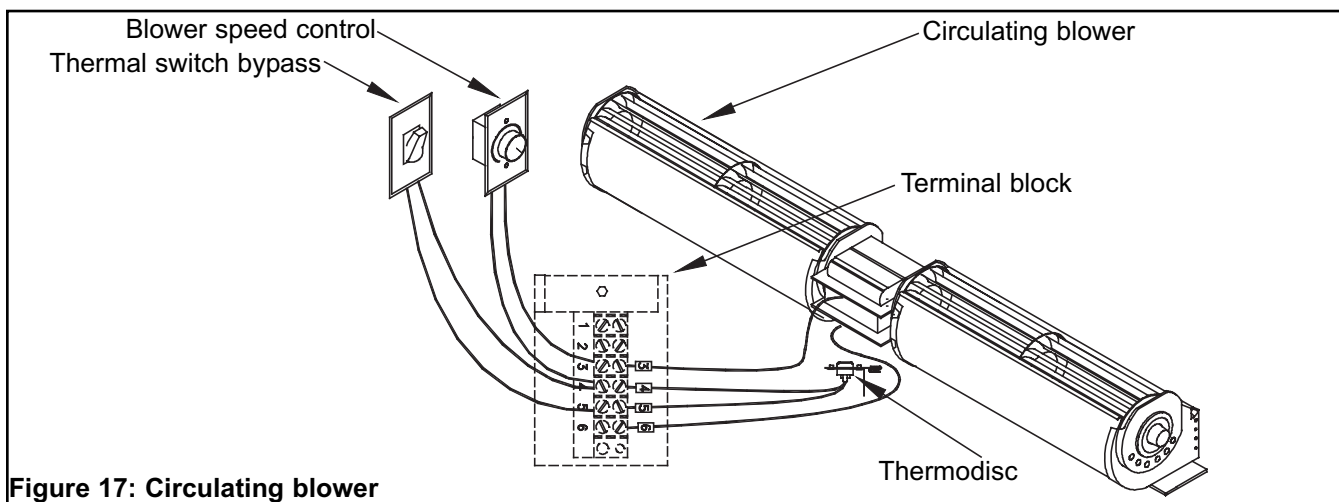

Figure 17: Circulating blower
8. Locate the provided speed control in a switch box at a convenient location on the wall and connect it with conventional 90° C 14-gauge wire (see Figure 17).